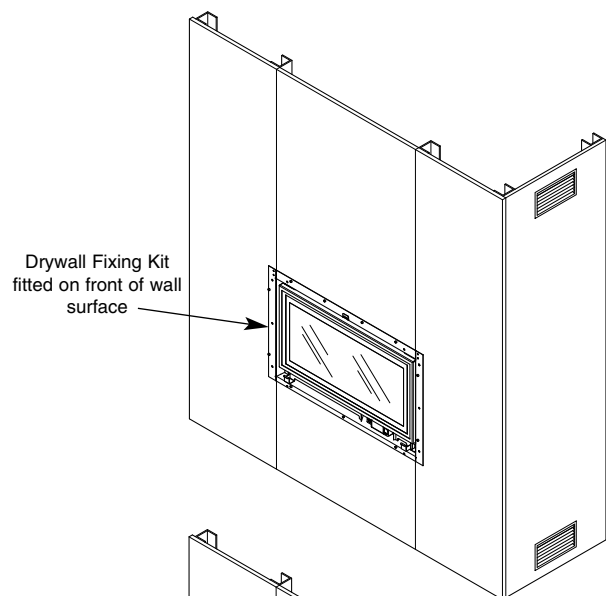

Fig. 21a
13. Should natural slips be required behind the appliance, it will be necessary to fit the Drywall Fixing Kit in front of the wall surface to allow for the 20mm slips (Fig. 21a & 21b).